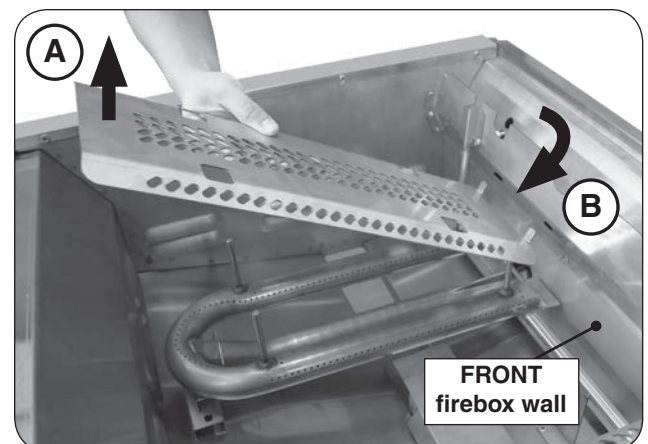

Fig. 31-4 Heat distribution grid(s) removal
2. Remove the grid(s) as shown in Fig. 31-4. Lift from the rear, and free the front tabs (on the grid) from the cutouts in the front firebox wall.